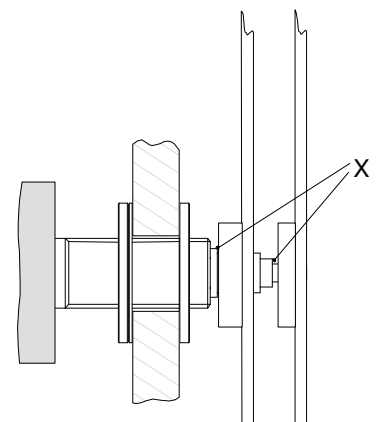

Fig. 3
The hour and minute hand axles are positioned at 12:00 ex works. They must be inserted on the axles and pressed down to the stop (X). They must then be tightened in place without twisting the axles. See Fig. 3.